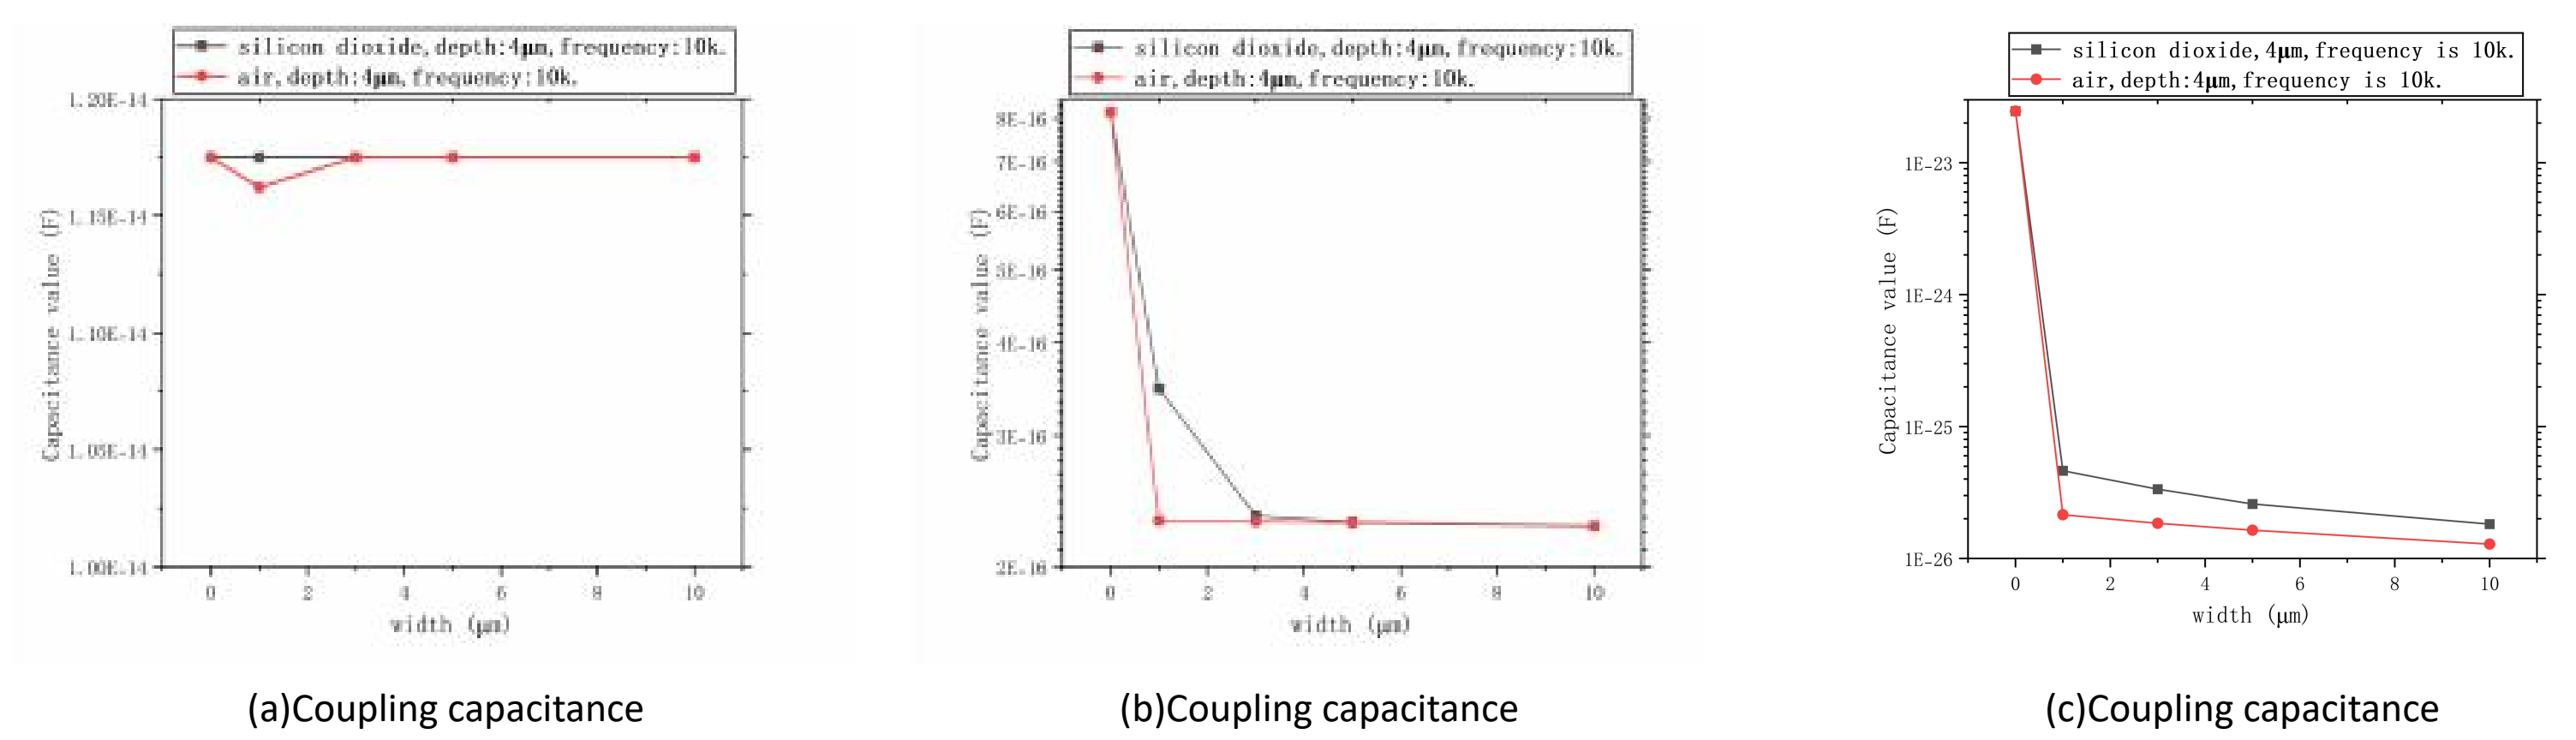

Fig. 2 Effect of different isolation widths on capacitance parameters at a fixed depth of 4 μm .
- $C_{\text{inter-pad}}$: Drops by >3 orders of magnitude (width 1 $\rightarrow$ 10 μm), Fig. 2(b).